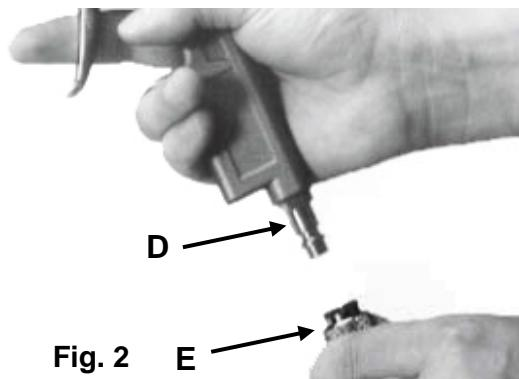

Fig. 2 E
3. Connect the nipple **D** of air blow gun to the coupling **E** of the other end of hose (fig.2).